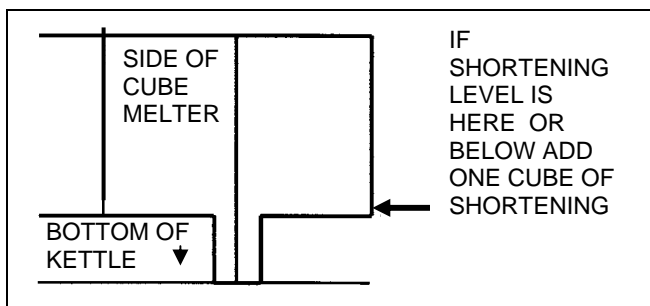

Figure 2-4. When to Add a Cube of Shortening.
10. As needed, add shortening to the kettle, one cube at a time. Always add a cube if the shortening level drops to the tops of the legs of the cube melter. (See Figure 2-4 & 2-4A.)